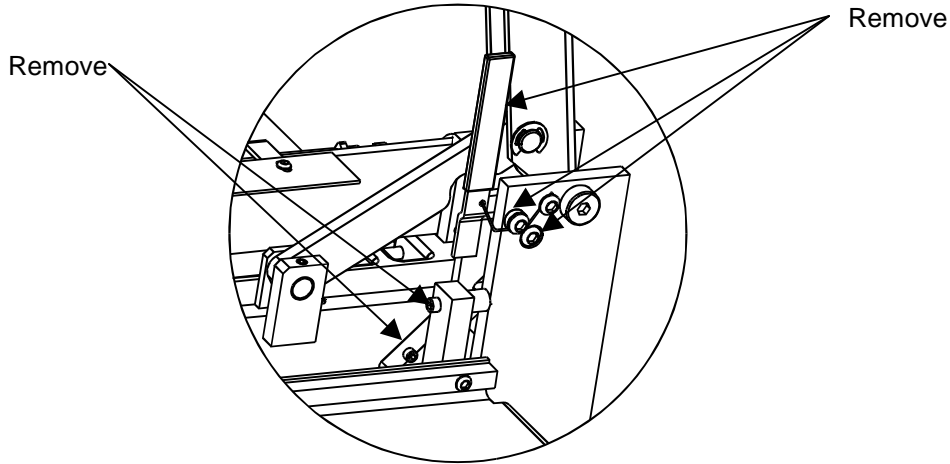

Figure 20
6. Install new knife latch (apply semi-permanent thread lock to threads of mounting screw) and knife latch spring. The knife latch mounting screw should be tightened enough to take the slop out of the latch but not tight enough to inhibit free movement of the latch. One leg of the spring must be bent with pliers to engage the hole in the knife latch. Bend the left tang 90° toward the knife latch about 1/2" from the end, as shown on page 41. The other tang must be bent around its retainer screw as shown in Figure 20 above.